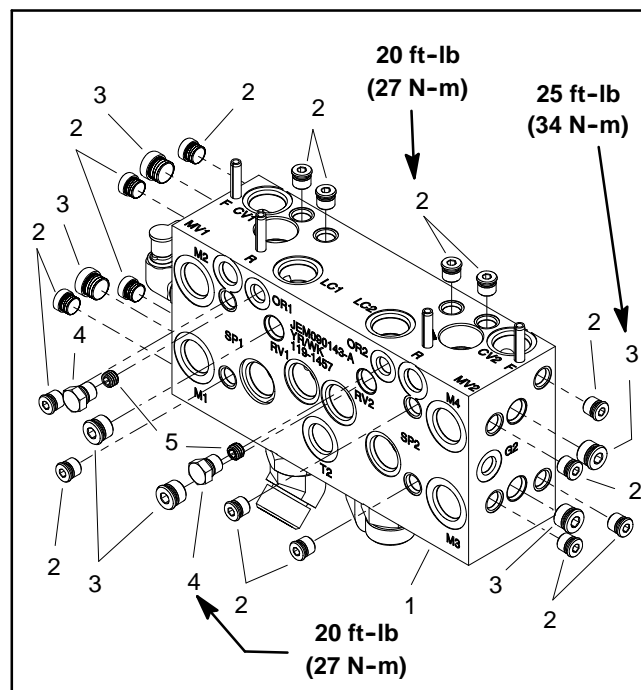

Figure 75
## Manifold Plugs (Fig. 75)
1. Remove plugs as needed using Figure 75 as a guide. Discard O-ring after plug removal.